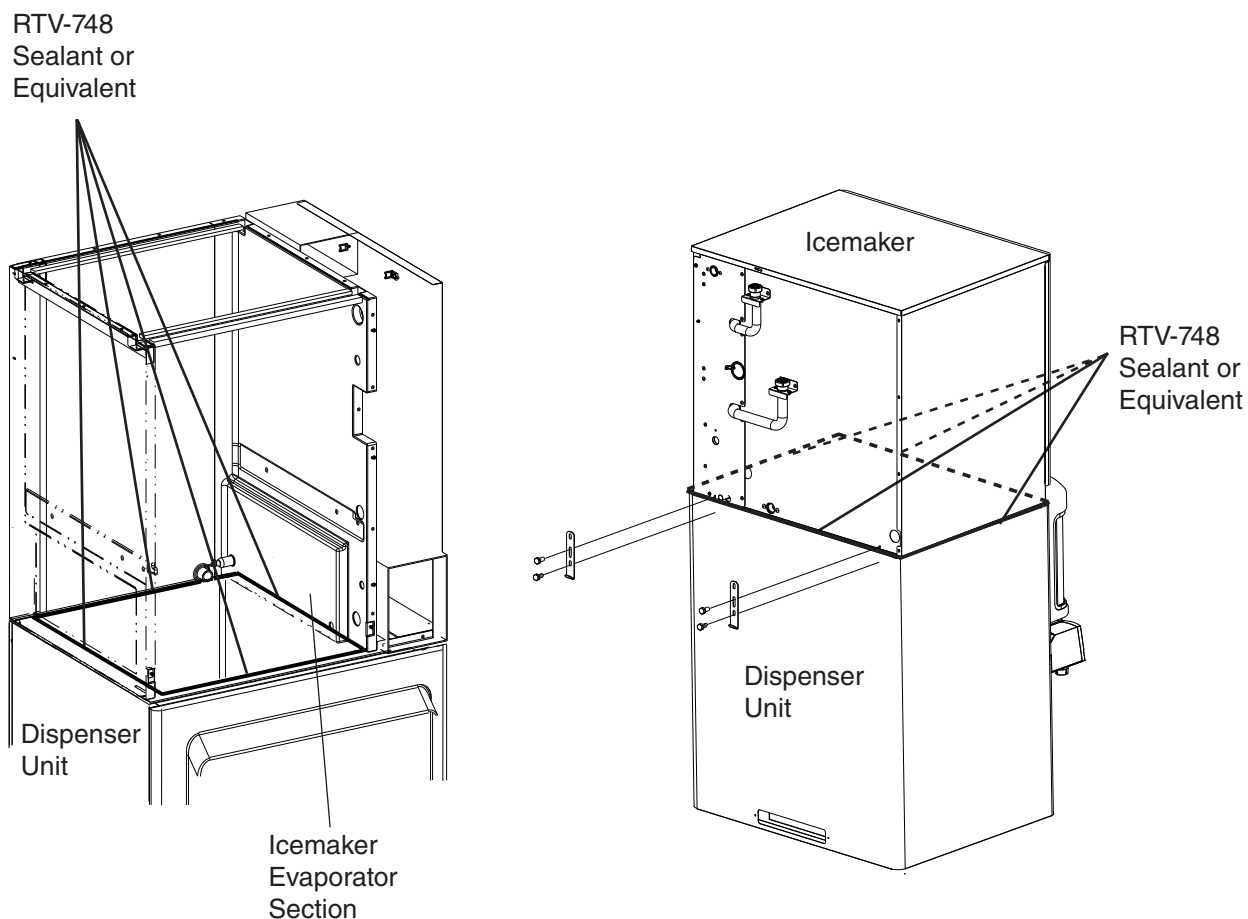

Fig. 9
7) **Dispenser Unit:** Seal the inside perimeter of the icemaker evaporator section to the dispenser unit adapter kit with RTV-748 sealant (provided) or equivalent. See Fig. 9.